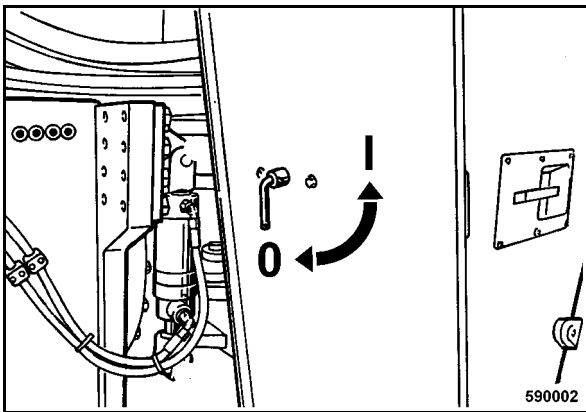

Fig. 10
- Turn the main battery switch (Fig. 10) to position "0" and check by voltage measurement (ignition key test) whether the batteries are disconnected from the electric system of the machine.